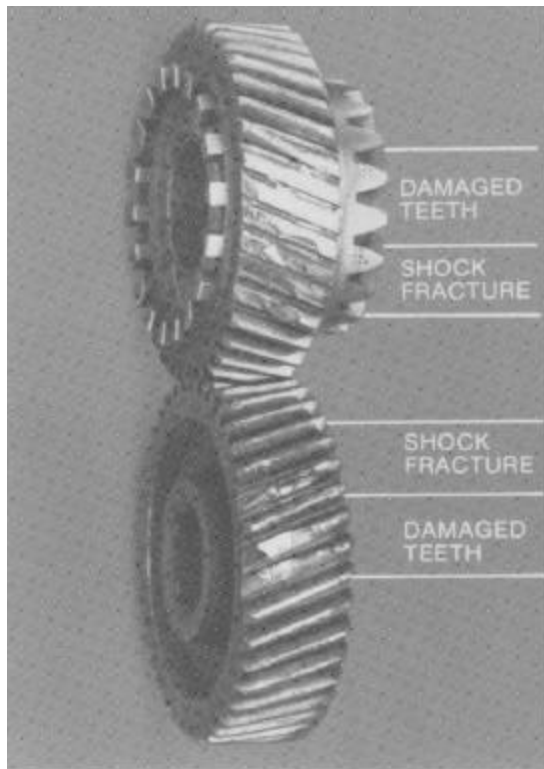

**Figure 52 Worn Case Thrust Washer Surface**
- b. Case thrust washer surface worn (Figure 52). Metal to metal contact caused this wear pattern in the case wall. The deep ridges at the edge of the pattern requires case replacement.